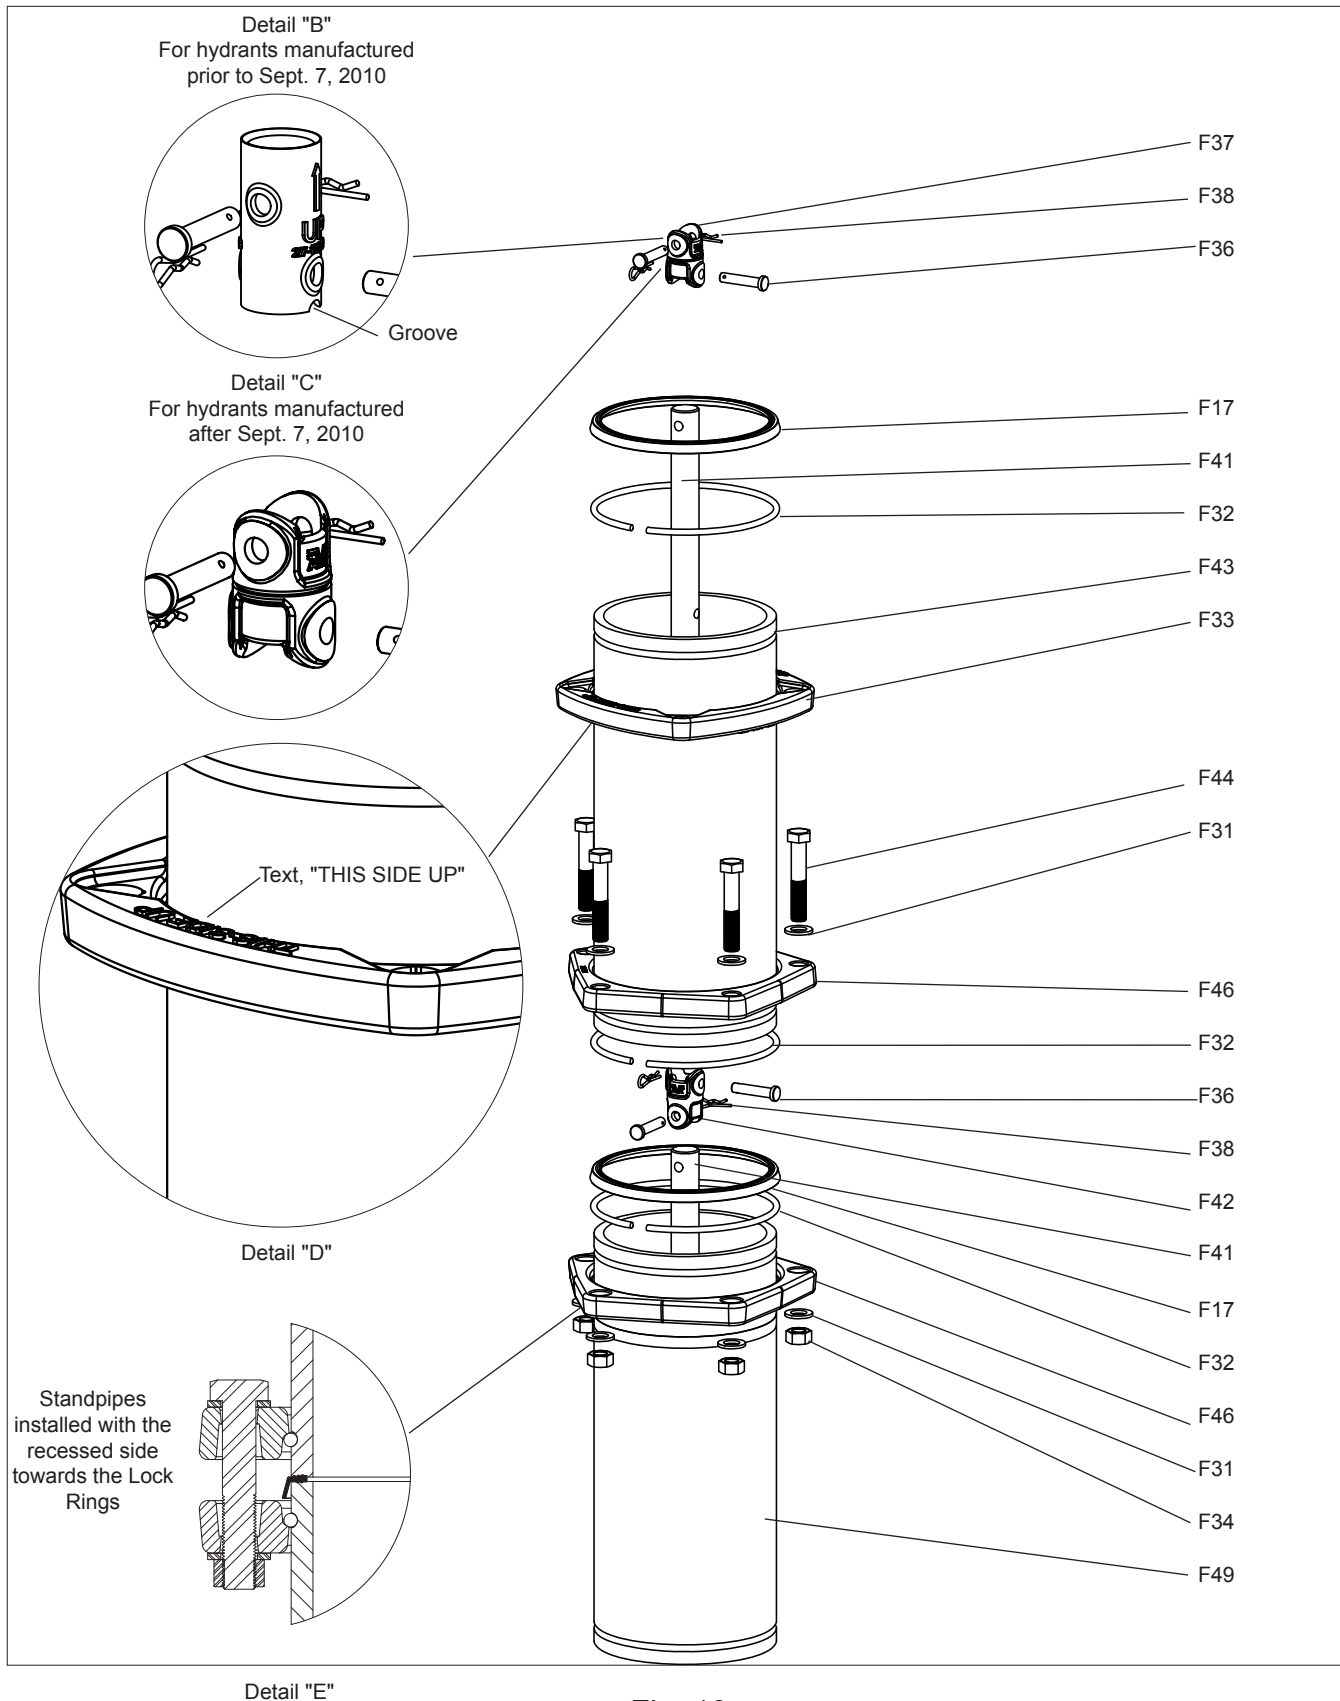

Fig. 10
EXTENSION KITS: Fig. 10
17. Align the bolt holes on the two Standpipe Flanges (F46) and install the Extension Barrel Bolts (F44), Nuts (F34) and Washers (F31) as shown in Figure 10. Tighten to 80 Ft. Lbs..
EXTENSION KITS: Fig. 10 (continued):